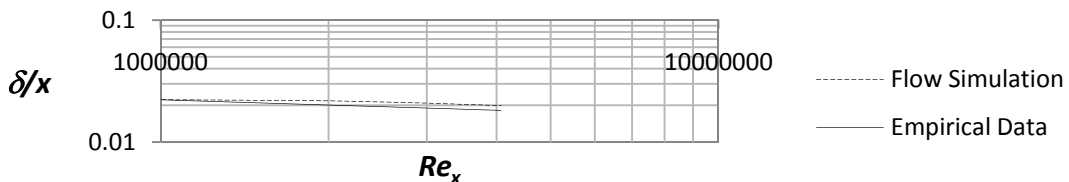

Figure 2.30b) Boundary layer thickness for turbulent boundary layers at $Re_x = 10^6 - 4.1 \cdot 10^6$
Place the file “**xy-plot figure 2.30b)**” into the **Local Disk (C:)/Program Files /SolidWorks (2)/SolidWorks Flow Simulation/lang/english/template/XY-Plots** folder to make it available in the **Template** list. Repeat step 24 and choose the sketch $x = 0.2, 0.4, 0.6, 0.8$ m and check the box for **X-Velocity**. Rename the xy-plot to **Turbulent Boundary Layer Thickness**. An Excel file will open with a graph of the boundary layer thickness versus the Reynolds number, see figure 2.30b).